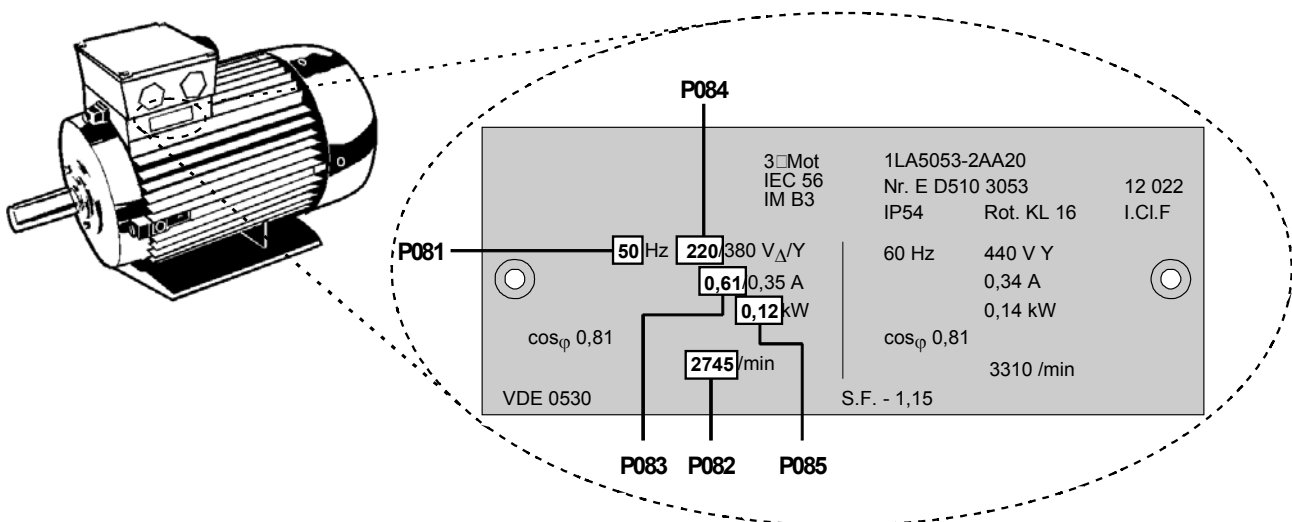

Figure 3.2.1: Typical Motor Rating Plate Example
- (1) The inverter does not have a main power switch and is live when the mains supply is connected. It waits, with the output disabled, until the RUN button is pressed or for the presence of a digital ON signal at terminal 5 (rotate right) or terminal 6 (rotate left) - see *parameters P051 - P053*.
- (2) If output frequency is selected to be displayed (P001 = 0), the corresponding setpoint is displayed approximately every 1.5 seconds while the inverter is stopped.
- (3) The inverter is programmed at the factory for standard applications on Siemens four-pole standard motors. When using other motors it is necessary to enter the specifications from the motor's rating plate into parameters P081 to P085 (see *Figure 3.2.1*). **Note: Access to these parameters is not possible unless P009 has been set to 002 or 003.**
- (1) Connect control terminal 5 to terminal 8 via a simple on/off switch. This sets up the motor for clockwise rotation (default).
- (2) Apply mains power to the inverter. Set parameter P009 to 002 or 003 to enable all parameters to be adjusted.
- (3) Check that parameter P006 is set to 000 to specify digital setpoint.
- (4) Set parameter P007 to 000 to specify digital input (i.e. DIN1 (terminal 5) in this case) and disable the front panel controls.
- (5) Set parameter P005 to the desired frequency setpoint.
- (6) Set parameters P081 to P085 in accordance with the rating plate on the motor (see Figure 3.2.1).
- (3) Apply mains power to the inverter. Set parameter P009 to 002 or 003 to enable all parameters to be adjusted.
- (4) Set parameter P006 to 001 to specify analogue setpoint.
- (5) Set parameter P007 to 000 to specify digital input (i.e. DIN1 (terminal 5) in this case) and disable the front panel controls.
- (6) Set parameters P021 and P022 to specify the minimum and maximum output frequency settings.
- (7) Set parameters P081 to P085 in accordance with the rating plate on the motor (see Figure 3.2.1).